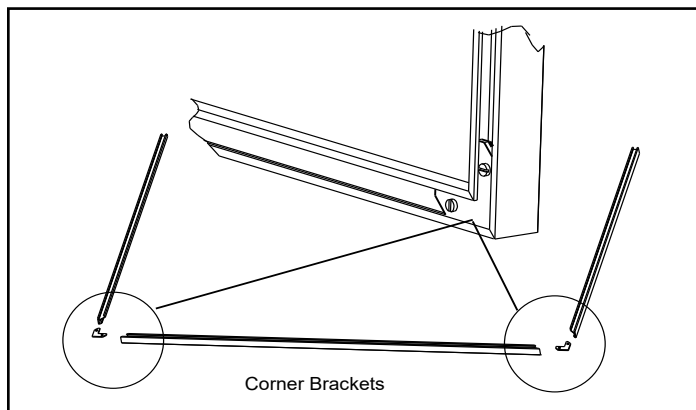

Figure 5.7
2. Assemble trim as shown in **Figure 5.7**.